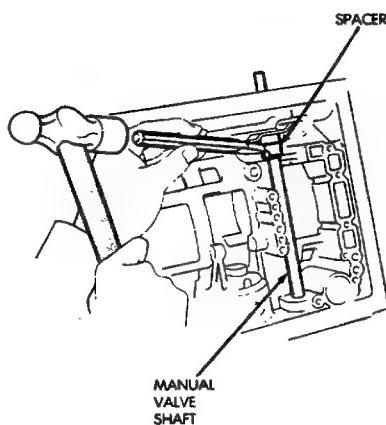
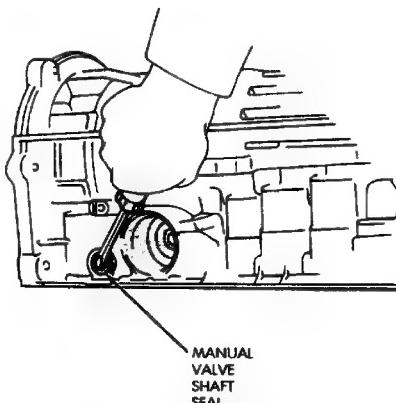

Fig. 22 Cutting Spacer Sleeve
Fig. 23 Removing Manual Valve Shaft Seals
- (5) Cut spacer sleeve with chisel and remove it from manual valve shaft (Fig. 22).
- (6) Remove pin from shaft and sector with pin punch.
- (7) Remove shaft and sector from case.
- (8) Pry shaft seals out of case (Fig. 23).
- (9) Inspect the manual valve shaft and sector. Replace either component if worn or damaged.